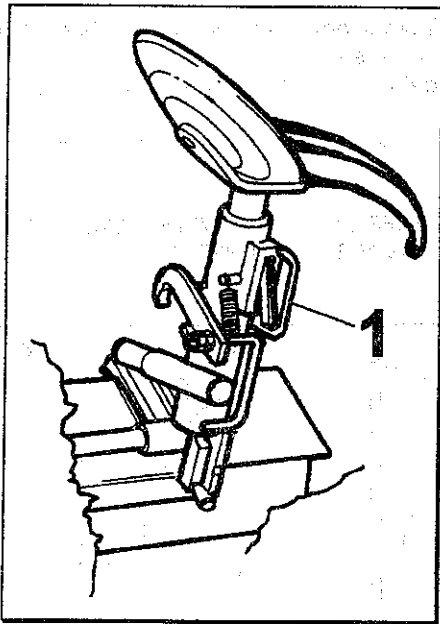

Fig.15
7. To turn the tool depress the handle (#1 Fig.15).